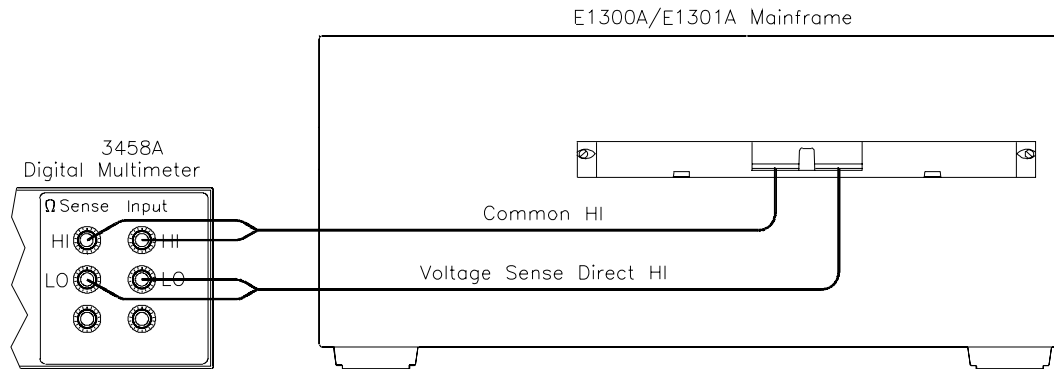

Figure 2-3. Ch 0-7 and 90 HI Measurements Connections
- Connect DMM leads as shown in Figure 2-3